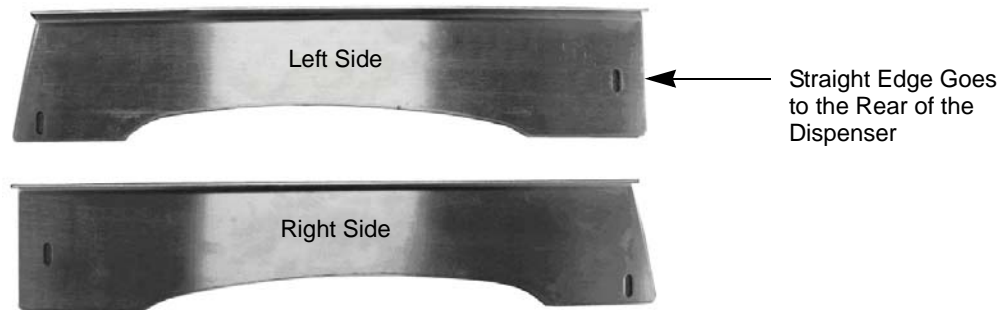

Figure 2
2. Locate the two right and left side hold down brackets, shown in Figure 2. These are the brackets with the bent flange on them.
1. Locate the two right and left side hold down brackets, shown in Figure 2. These are the brackets with the bent flange on them.